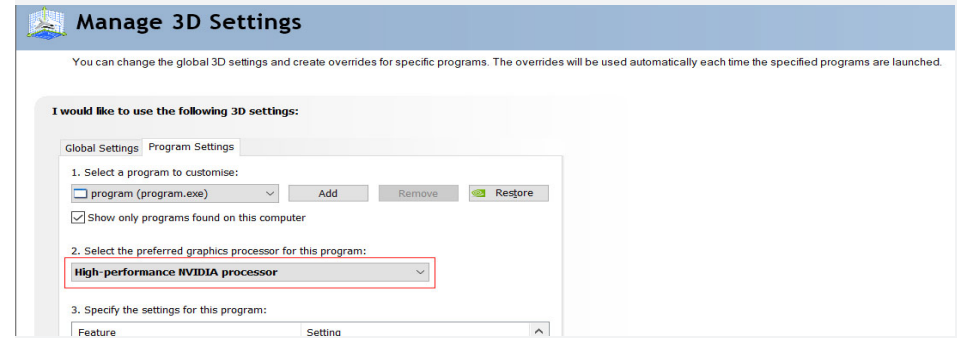

Figure 4
4. Make sure 'Preferred Graphics Processor' is 'Nvidia Processor' (figure 4)